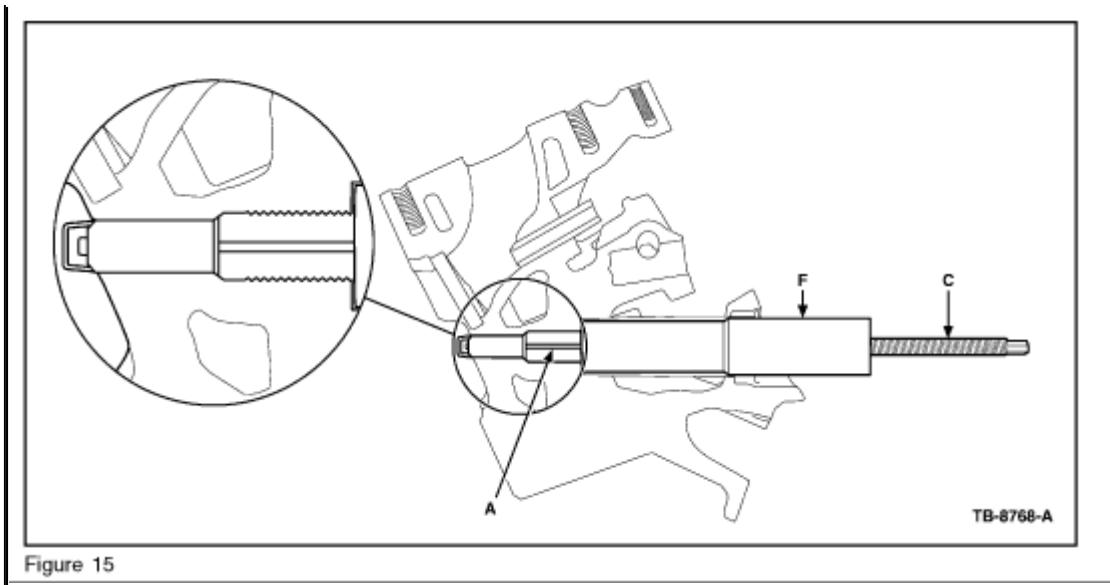

Figure 15
5. Insert the completed assembly into the spark plug well and fully engage the pin into the porcelain. (Figure 15)
6. Spray Motorcraft(R) Metal Brake Parts Cleaner 2-4 seconds between the spark plug well and steel tool pilot. The steel tool pilot must be lifted up approximately 1/2" to allow brake cleaner to flood the porcelain and pin.